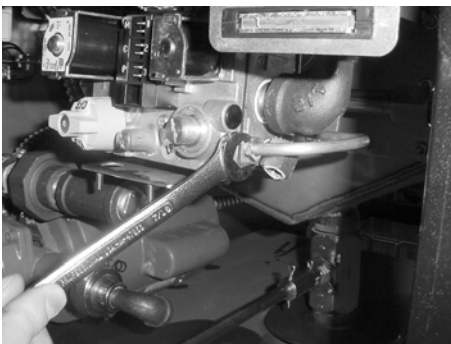

Figure 2-39
3. Using a 7/16 wrench, remove the pilot line from the gas valve. Figure 2-39.